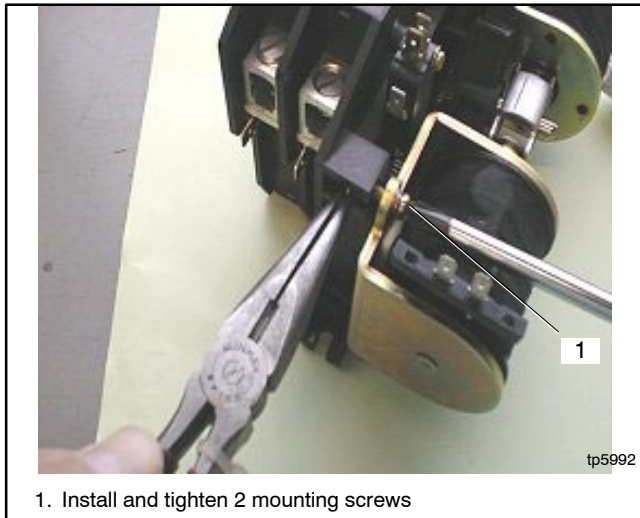

Figure 7-16 Installing the Coil Assembly, Typical
3. Install and tighten the two mounting screws. Use pliers to hold the nuts while inserting and tightening the screws. See Figure 7-16.